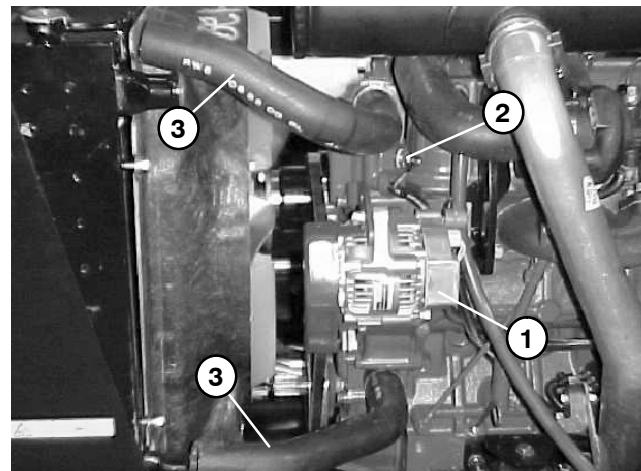

Figure 12
3. Drain coolant from radiator into a suitable container (see Radiator Removal). Disconnect coolant hoses from the radiator (Fig. 12).
- A. The temperature sender and alternator (Fig 12). Note: red wire attached to alternator with washer, nut, and boot does not have to be removed.
- A. The temperature sender and alternator (Fig 12).